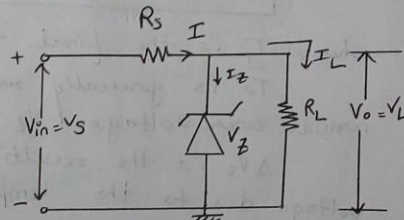

fig 2: Zener as voltage regulator
In fig 2, it is required to provide constant voltage across load resistance  $R_L$ , whereas the I/P voltage may be varying over a range.
• As shown in fig 2, zener diode is reverse-biased and as long as the I/P voltage does not fall below  $V_Z$  (zener breakdown voltage), the voltage across the diode will be constant and hence the Load voltage will also be constant. ( $V_L$ )
From fig 2, when zener voltage regulator has to supply a load current ( $I_L$ ), the zener diode must be able to pass a max current of ( $I_L + I_Z$ ).